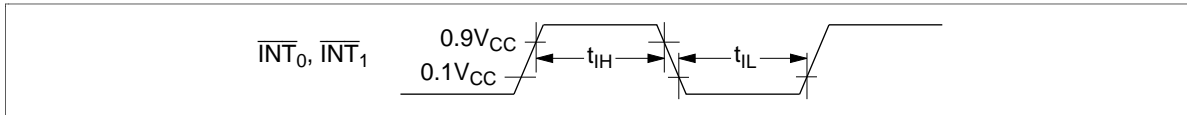

Figure 49 Interrupt Timing
4. See figure 49. The unit t_{cyc} is applied when the MCU is in standby mode or active mode.
6. See figure 49. The unit t_{subcyc} is applied when the MCU is in watch mode or subactive mode. $t_{subcyc} = 244.14 \mu s$ (when a 32.768-kHz crystal oscillator is used)